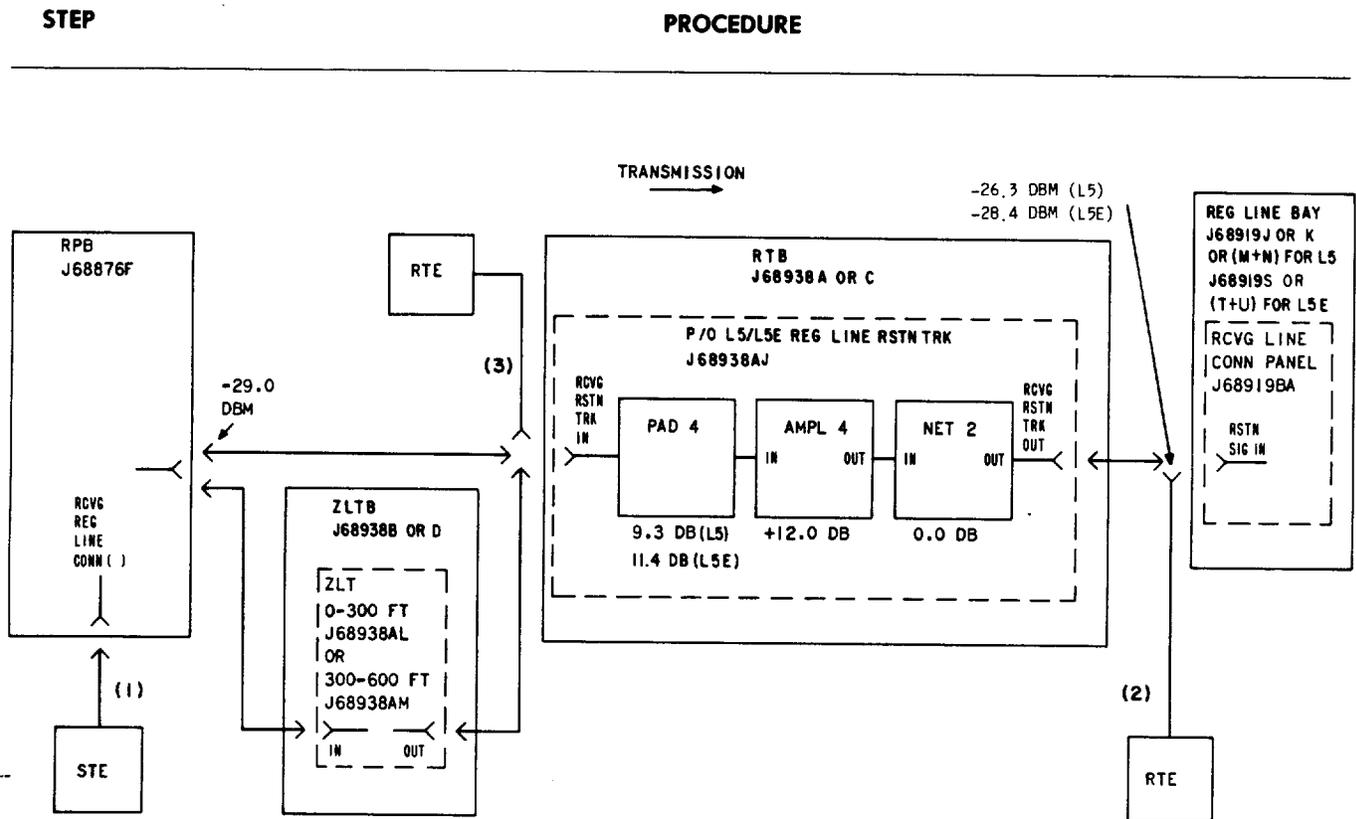

Fig. 12—L5/L5E Regular Line Receiving Restoration In Trunk Circuit
4	Connect the STE to the RCVG REG LINE CONN () jack at the RPB (J68876F) [Fig. 12, patch (1)].
5	Remove cable from the RSTN SIG IN jack located on the back of the RCVG LINE CONN panel at the regular line bay. Connect RTE to the cable [Fig. 12, patch (2)].
- 9 Remove cable from the RCVG RSTN TRK IN jack at the L5/L5E REG LINE RSTN TRK unit (J68938AJ) in the RTB and connect cable to the RTE [Fig. 12, patch (3)].
21	Remove cable from the RSTN SIG IN jack located in back of the RCVG LINE CONN panel at the regular line bay. Connect RTE to cable [Fig. 12, patch (2)].
34	Remove the STE from the RCVG REG LINE CONN IN jack in the RPB [Fig. 12, patch (1)].
35	At the REG LINE bay, remove cable from the RTE and restore to the RSTN SIG IN jack on back of the RCVG LINE CONN panel [Fig. 12, patch (2)].